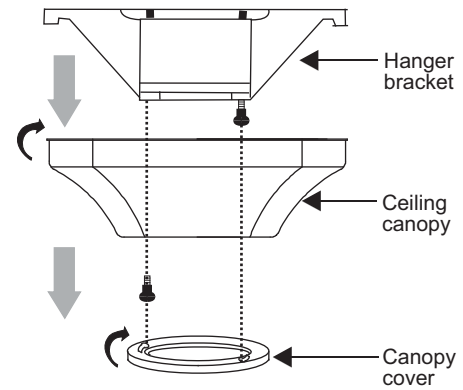

Figure 5
Step 1. Remove the decorative canopy bottom cover from the canopy by turning the cover counter clockwise. (Fig. 5)
Step 2. Remove the hanger bracket from the canopy by removing the 1 of 2 screws from the bottom of the hanger bracket and loosening the other one a half turn from the screw head. Next, turn the canopy counter clockwise to removing the hanger bracket from the canopy. (Fig. 5)